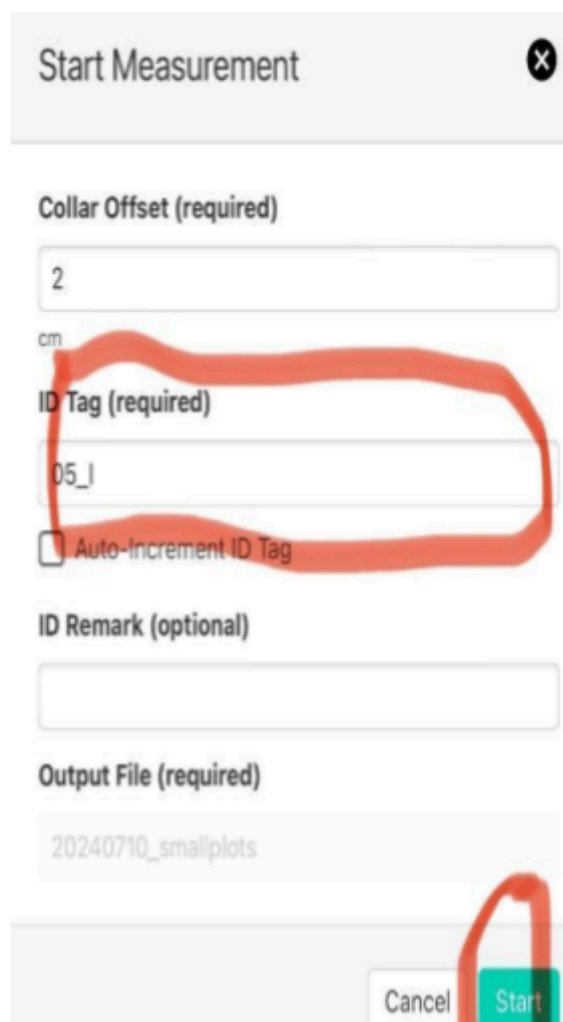

Figure 5: ID tag naming screen
15. Select the start button to begin measuring, the system will automatically ask you to pre-label your measurement corresponding to the collar it will measure. Label and push start again (Figure 5).